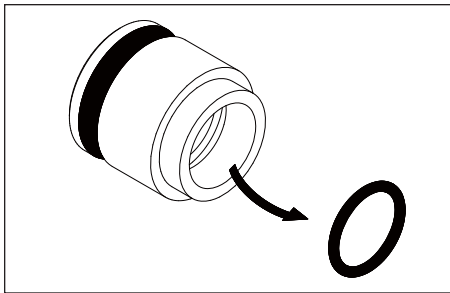

Figure 24
- Remove the packing from the throat bearing (See Figure 24).